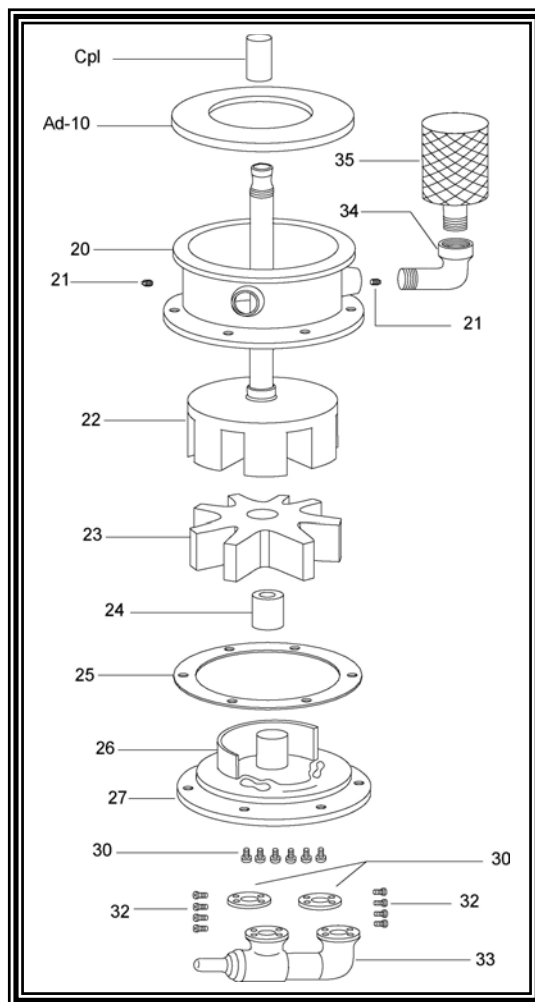

Figure 4.B.
- Please refer to Figure 4-B for S310 pumps.